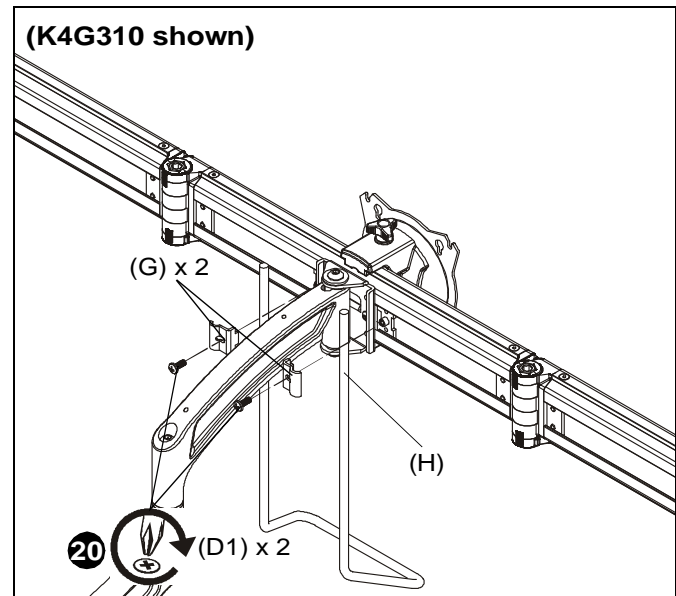

Figure 12
20. Use two #10-32 x 1/2" Phillips pan machine screws (D1) and two handle clamps (G) to secure handle (H) to array center (AA or BB). (See Figure 12)